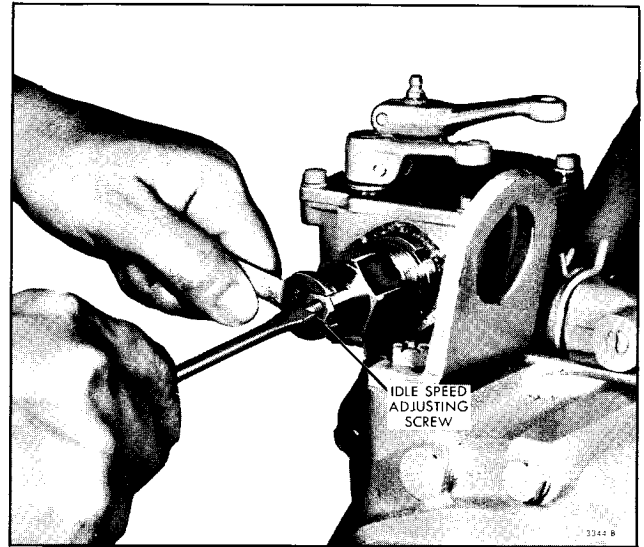

Fig. 5 - Adjusting Engine Idle Speed
1. With the engine running at normal operating temperature and with buffer screw backed out to avoid contact with the differential lever, turn the idle speed adjusting screw, Fig. 5, until the engine idles at the recommended idle speed.